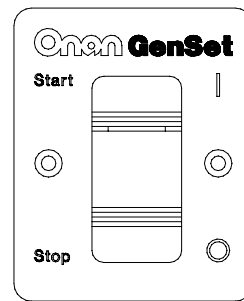

FIGURE 12. REMOTE SWITCH
- Remote switch / status lamp (Figure 12).